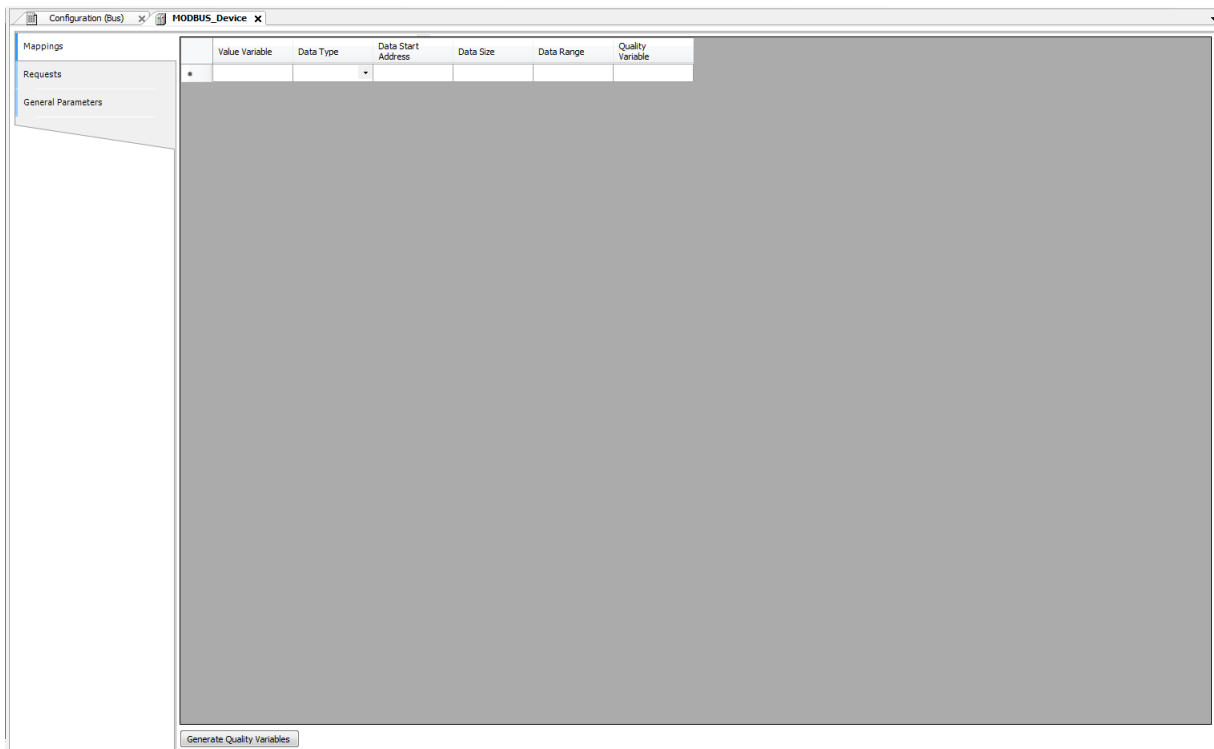

Figure 86: MODBUS Data Mappings Screen
- Add and configure the MODBUS mappings on Mappings tab as Figure 86, specifying the variable name, data type, and the data initial address, the data size and range are filled automatically.